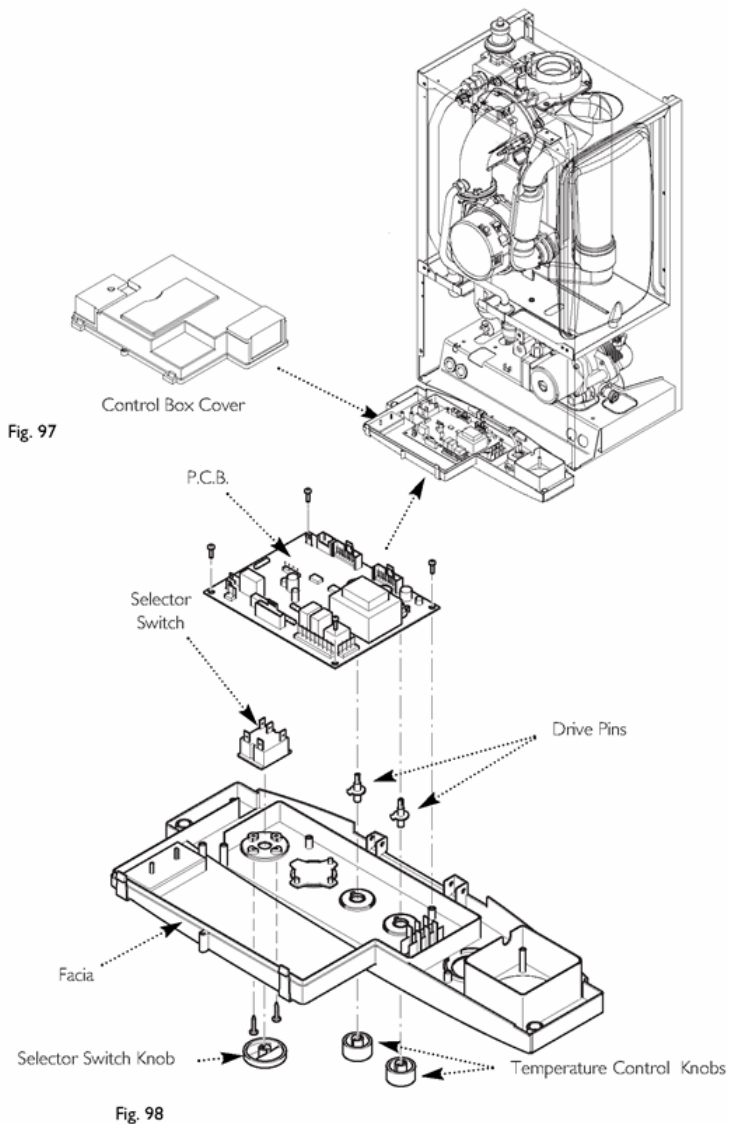

Fig. 97 & Fig. 98
14.20 P.C.B. (Figs. 97 & 98)
14.21 Selector Switch (Figs. 97 & 98)